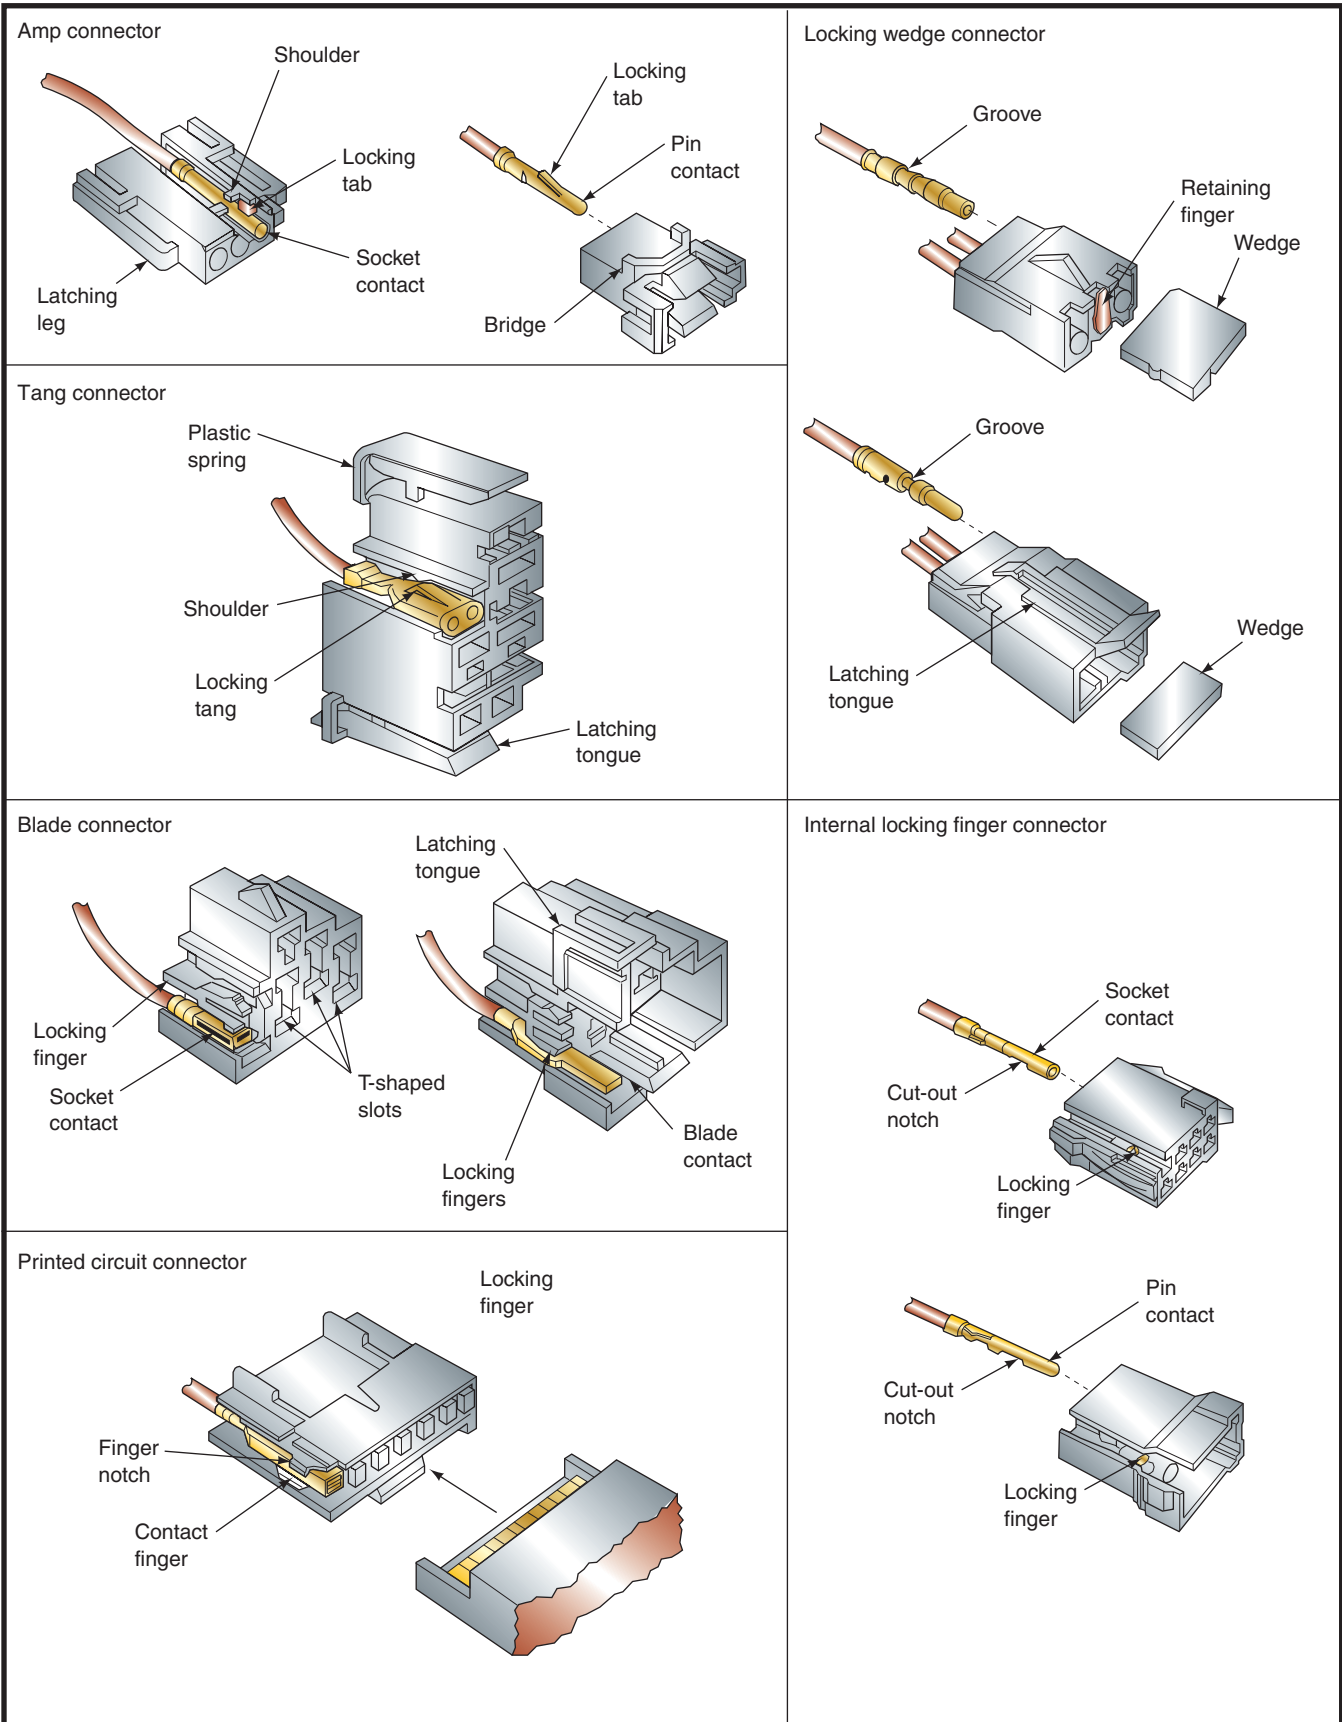

FIGURE 4-7 Multiple-wire hard-shell connectors.
2. **Multiple-wire, hard-shell connector:** These connectors usually have a hard, plastic shell that holds the connecting terminals of separate wires (Figure 4-7). The wire terminals can be removed from the shell to be repaired.